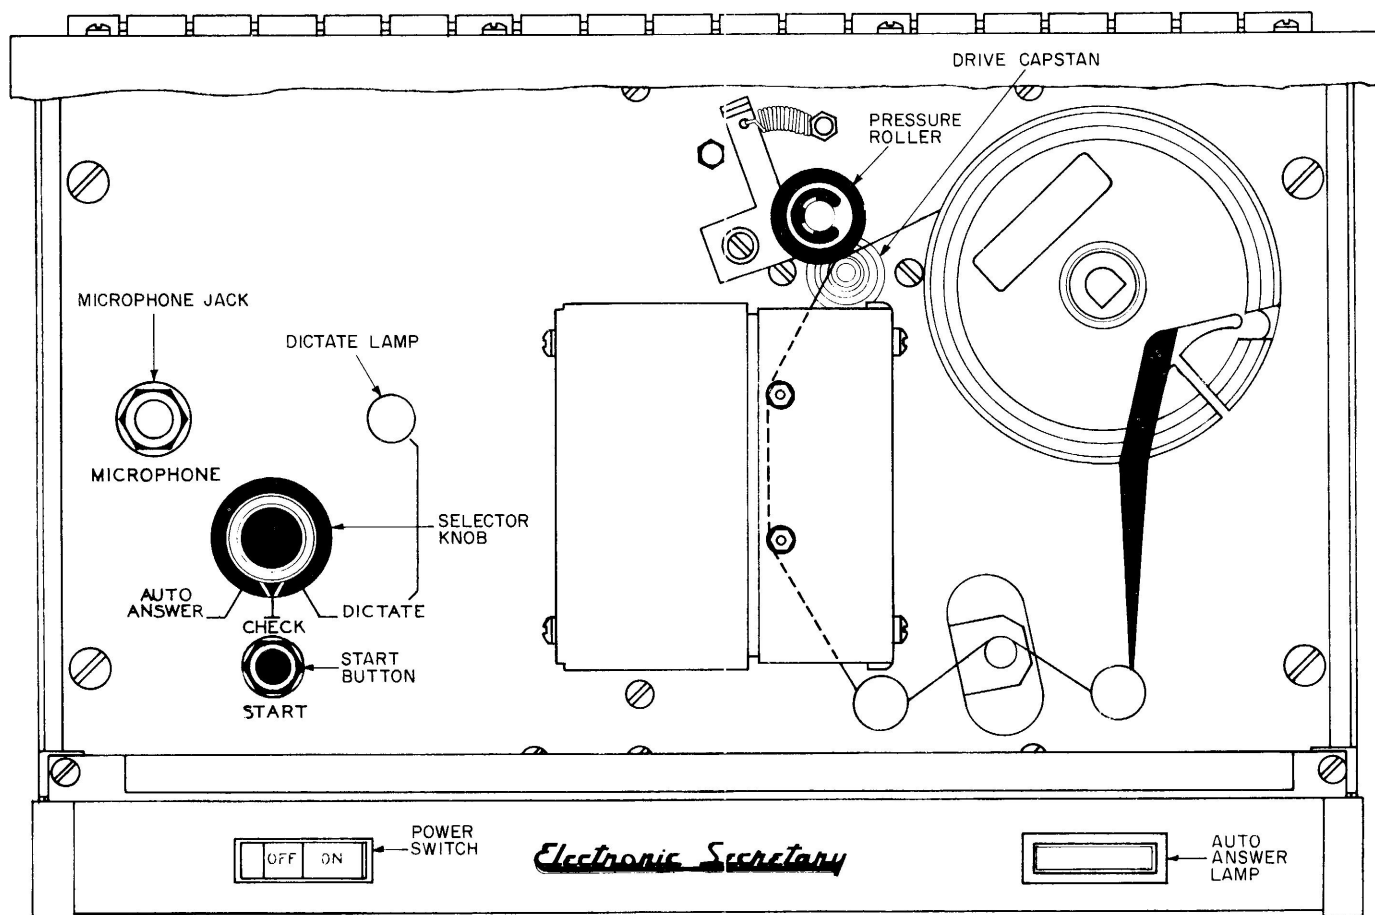

Figure 3. Deck of AO-3 (Top View).
2.08 Place announcement message cartridge on "D" shaped spindle. Pull tape out of cartridge and thread around guide pillars, tape tension arm, and into slot (see Figure 3). Pull back pressure roller assembly and thread tape between rubber pressure roller and capstan. Pull tape gently to take up slack. Tape must be positioned in the guide pillars between the heads and the lamp. Release pressure roller assembly.
3.01 The AO-3 performs the following three basic functions: (1) Dictate Announcement; (2) Check Announcement; and (3) Automatic Answer. The following paragraphs, in conjunction with Figures 3 and 5 explain the basic functions. The information contained in this part should be referred to when instructing the customer on the operation of his unit.